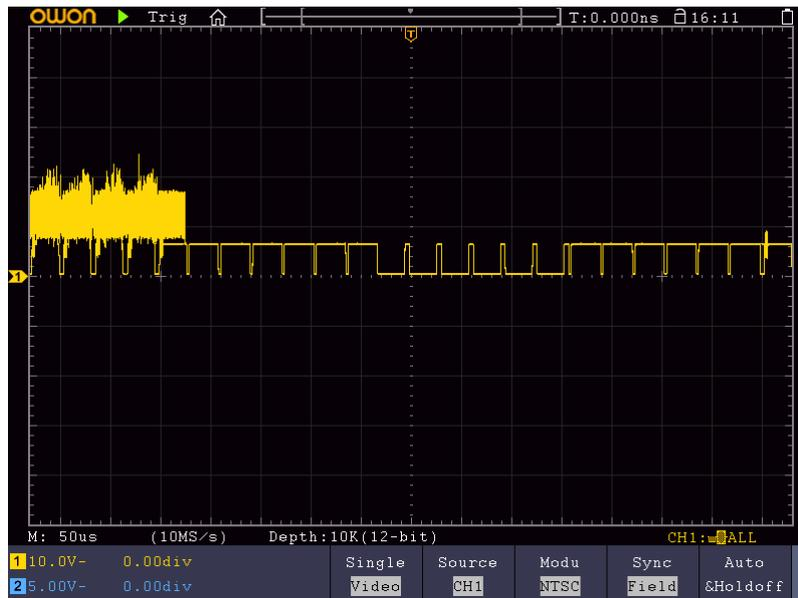

Figure 9-7 Waveform Captured from Video Field Trigger
- (3) In the left menu, select **Video** as the mode.
- (4) Select **Source** in the bottom menu. Select **CH1** in the right menu.
- (5) Select **Modu** in the bottom menu. Select **NTSC** in the right menu.
- (6) Select **Sync** in the bottom menu. Select **Field** in the right menu.
- (7) Turn the **Vertical Scale**, **Vertical Position** and **Horizontal Scale** knobs to obtain a proper waveform display (see *Figure 9-7*).